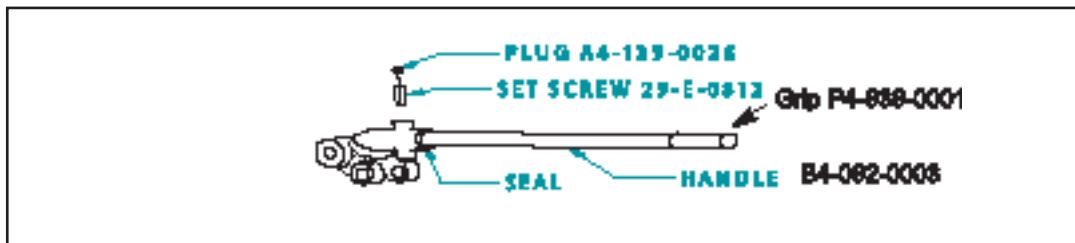

Figure 2
5. Install handle, with hole topside, fully into socket on ram lever. Tighten supplied set-screw, through hole in handle, with hex key wrench. (See Figure 2 below)
6. Apply a thin coat of sealant (RTV 102) at top edge of plastic plug supplied in package of components. Tap plug into hole over the set-screw. See Fig. 2.